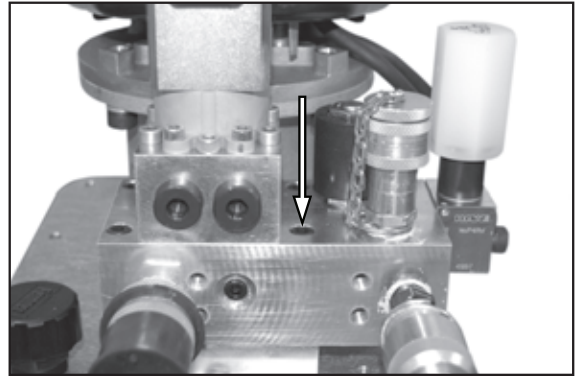

Figure 61.
4. See Figure 61. Remove the four manifold assembly bolts and remove the manifold assembly.